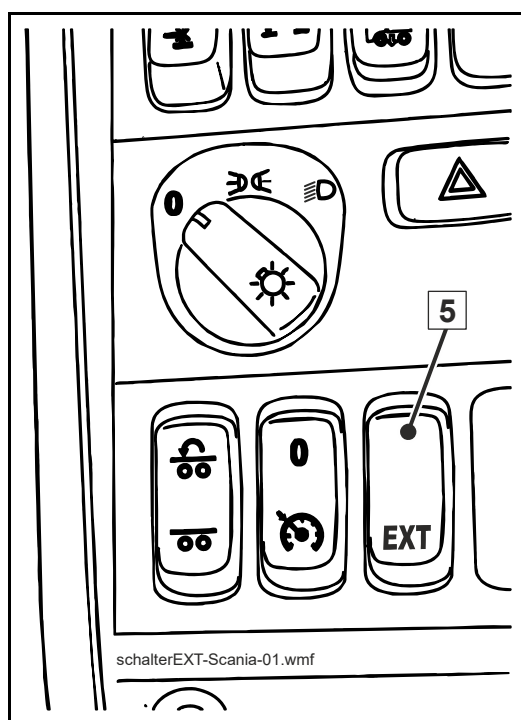

Fig. 46 SCANIA “EXT” switch
- Switch on the control system using the switch (5) (Fig. 46 SCANIA “EXT” switch).
Caption (Fig. 46 SCANIA “EXT” switch)